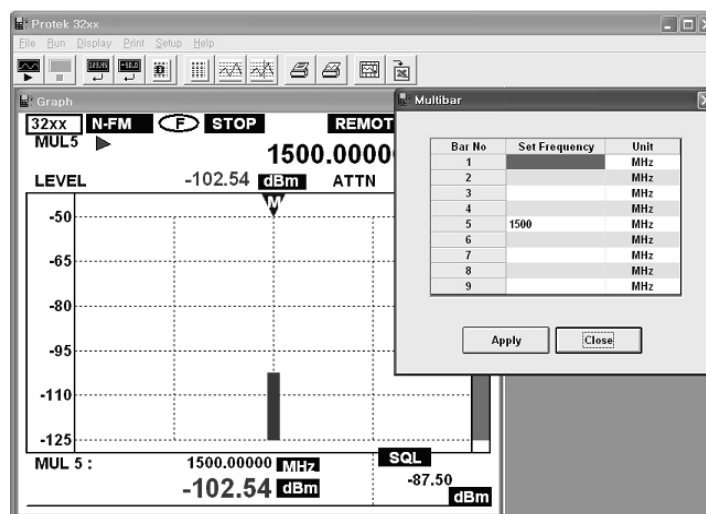

Figure 4.13. Set SINGLE MODE FREQUENCY
- 3) SINGLE MODE is showing as like figure 4.13 could be set to FREQUENCY in 5 lines and the At the equipment, if the 5 lines is selected, the combo box is showing. User can select "GHz", "MHz" and "kHz". If Apply button is clicked, one of Single Bar will be displayed.
Main menu display → select marker as figure 4.13 execute marker display window.